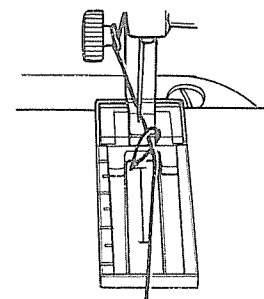

Fig. 2
6. Lower the foot. Then draw up the bobbin thread as shown in the page 13 (Fig. 2).